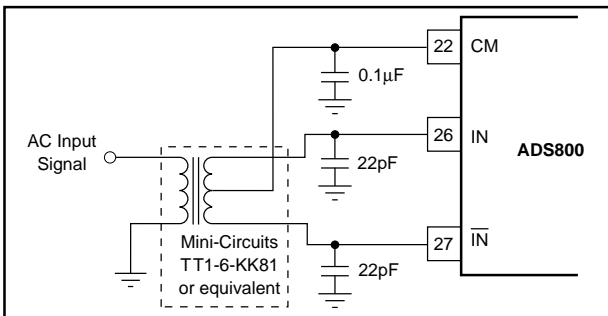

FIGURE 5. AC-Coupled Single-Ended to Differential Drive Circuit Using a Transformer.
The ADS800 has a differential input with a common-mode of +2.25V. For AC-coupled applications, the simplest way to create this differential input is to drive the primary winding of a transformer with a single-ended input. A differential output is created on the secondary if the center tap is tied to the common-mode voltage of +2.25V per Figure 5. This transformer-coupled input arrangement provides good high frequency AC performance. It is important to select a transformer that gives low distortion and does not exhibit core saturation at full scale voltage levels. Since the transformer does not appreciably load the ladder, there is no need to buffer the common-mode (CM) output in this instance. In general, it is advisable to keep the current draw from the CM output pin below 0.5μA to avoid nonlinearity in the internal reference ladder. A FET input operational amplifier such as the OPA130 can provide a buffered reference for driving external circuitry. The analog IN and \bar{IN} inputs should be bypassed with 22pF capacitors to minimize track/hold glitches and to improve high input frequency performance.